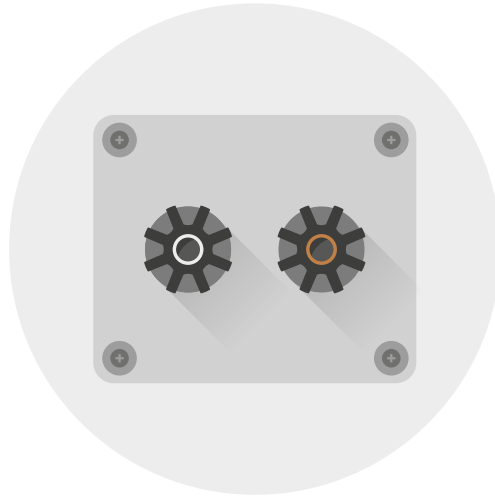

Fig. 1 Binding posts at rear of cabinet (example).
1. Connect a two-pole (+/-) loudspeaker cable to the binding posts, located at rear of the cabinet (see Fig. 1). The high quality, gold plated binding posts can accommodate different connection systems: